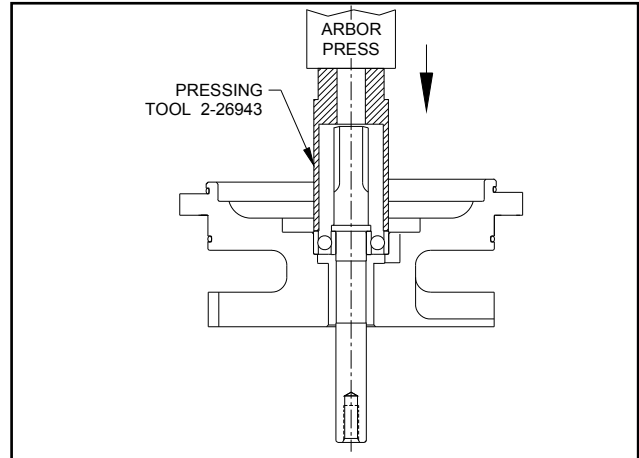

Figure 11. Turbine Bearing / Shaft Installation
Press the turbine bearing/shaft assembly (8,22) into the turbine housing (19). Use press tool P/N 2-26943 if required per figure 11. Do not press on the end of the shaft because the load could damage the bearing balls.